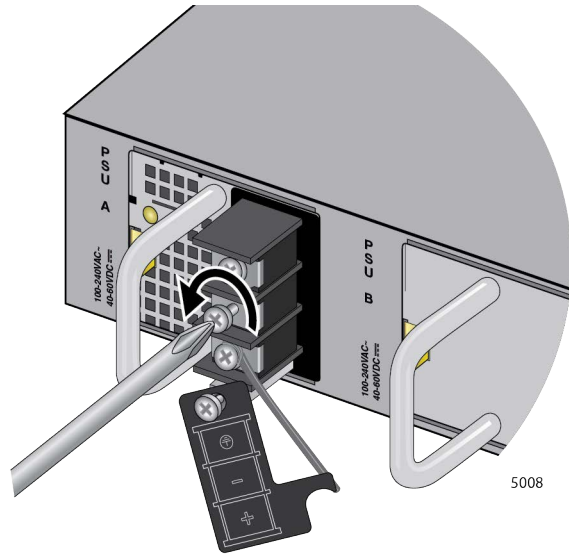

Figure 68. Loosening the Screw for the Negative (-)
3. Loosen the middle screw for the negative (-) with a Phillips-head screwdriver. Refer to Figure 68.